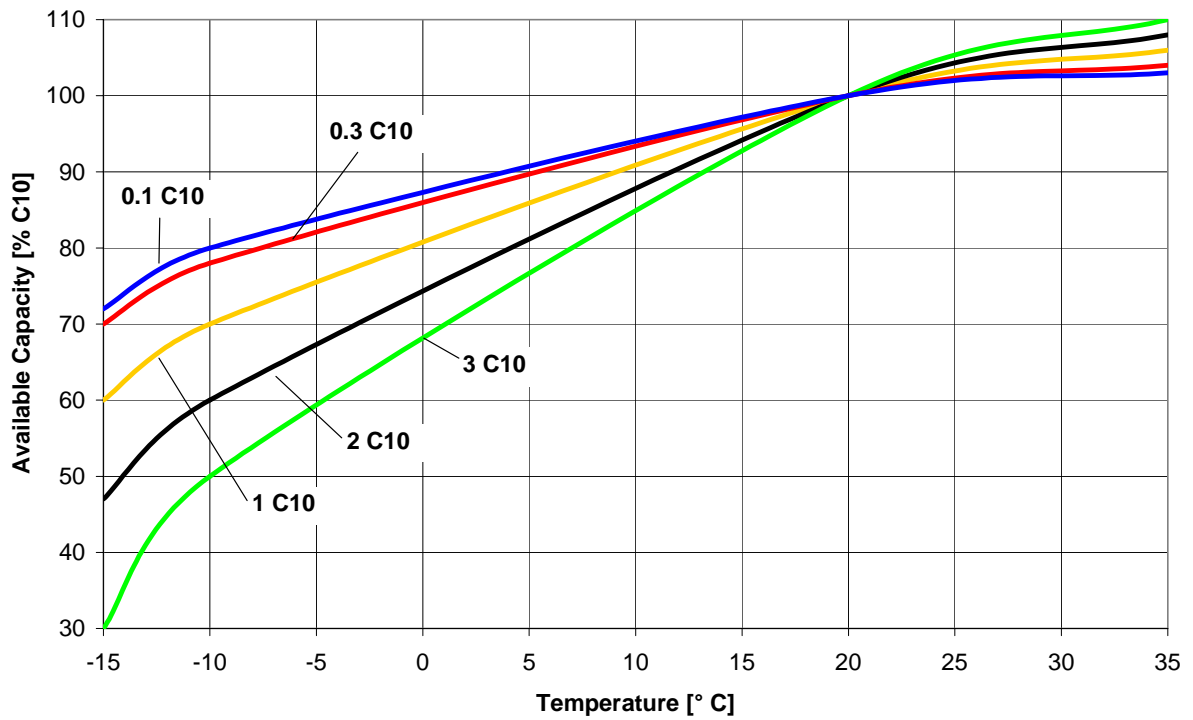

Fig. 13: Marathon – Available Capacity vs. Temperature at different Discharge Rates (Current value = Ah-value as multiples of C₁₀)
- The battery temperature influences the capacity as shown in fig. 13 and 14.